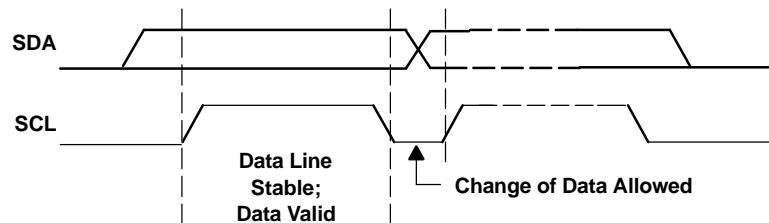
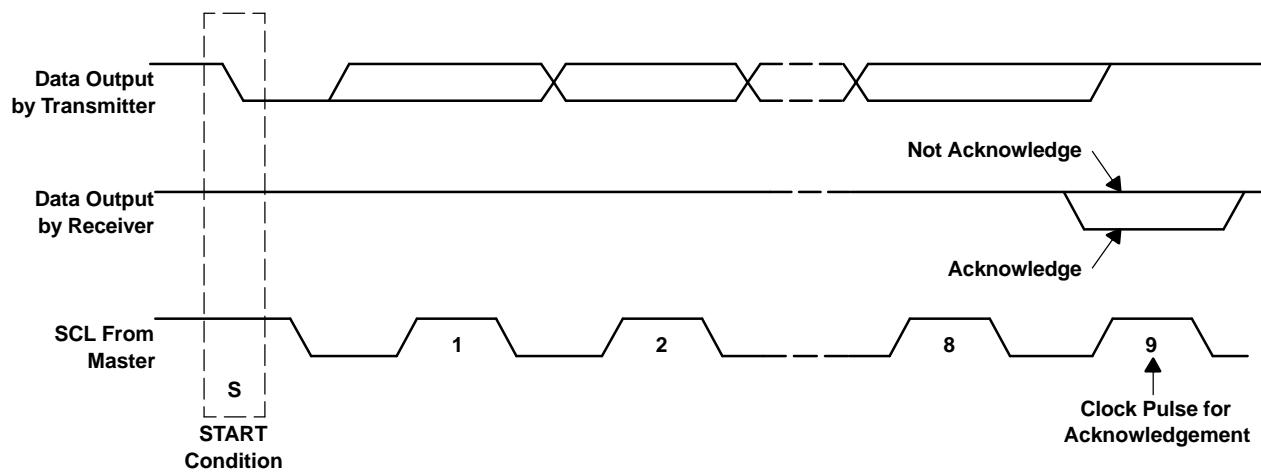

Figure 30. Bit Transfer on the I2C Bus
Figure 31. Acknowledge on the I2C Bus
- The master then generates the SCL pulses, and transmits the 7-bit address and the *read/write direction bit* R/W on the SDA line. During all transmissions, the master ensures that data is *valid*. A *valid data* condition requires the SDA line to be stable during the entire high period of the clock pulse (see Figure 30). All devices recognize the address sent by the master and compare it to their internal fixed addresses. Only the slave device with a matching address generates an *acknowledge* (see Figure 31) by pulling the SDA line low during the entire high period of the ninth SCL cycle. Upon detecting this acknowledge, the master knows that communication link with a slave has been established.